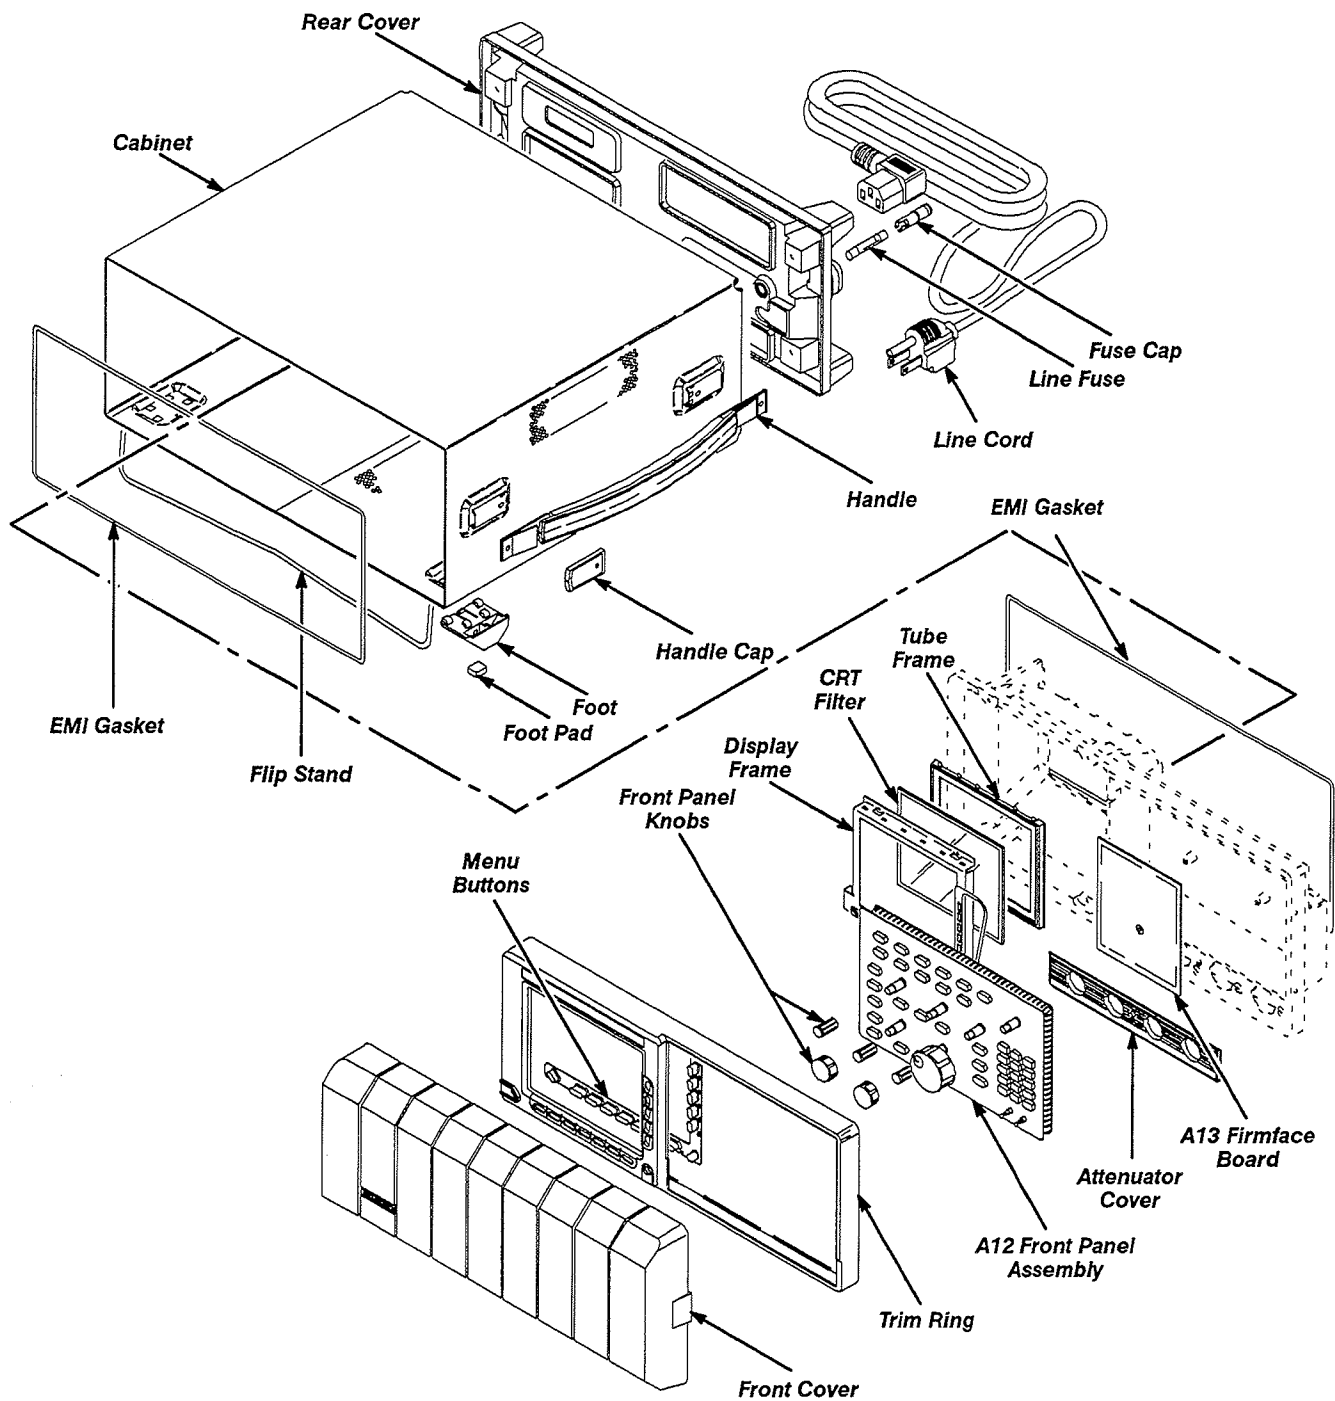
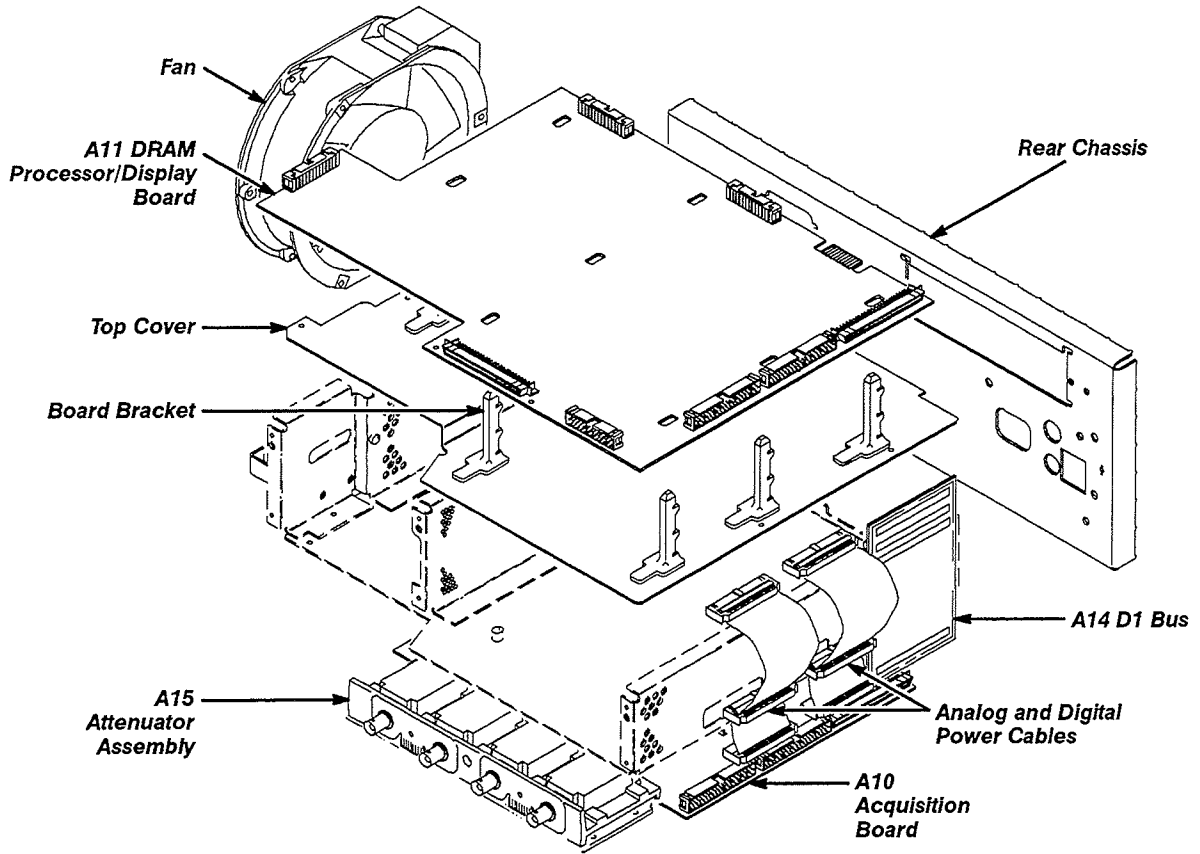
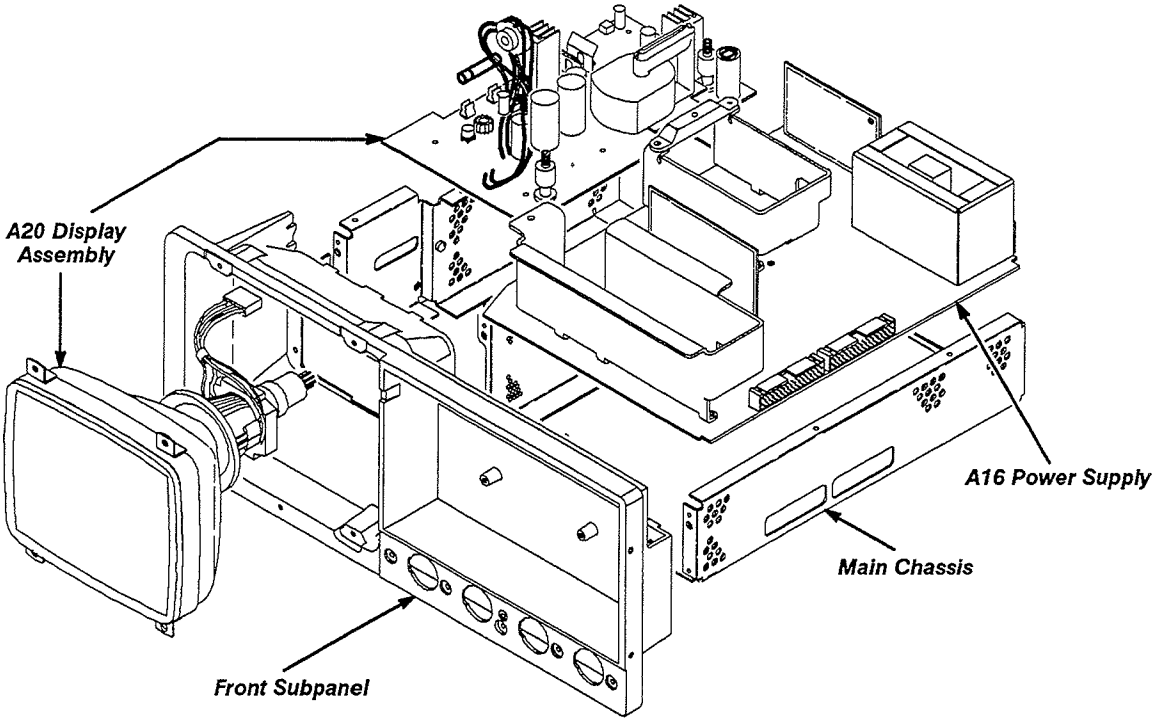

Figure 6-1: External Modules
Figure 6-2: Outer-Chassis Modules
Figure 6-3: Inner-Chassis Modules
- Three module locator diagrams for finding the External Modules (see Figure 6-1), Outer-Chassis Modules (see Figure 6-2), and Inner-Chassis Modules (see Figure 6-3) in this oscilloscope.
- a. Find the module to be removed in the module locator diagrams, Figures 6-1 through 6-3.
1. *Assemble equipment and locate modules to be removed:* Have a flat-bladed screwdriver (Item 5) handy. Locate the line fuse and line cord in the locator diagram *External Modules*, Figure 6-1.
- c. Locate the rear cover and cabinet in the locator diagram *External Modules*, Figure 6-1.
- b. Locate the modules to be removed in the locator diagram *External Modules*, Figure 6-1.
1. *Assemble equipment and locate modules to be removed:* No tools are needed. Locate the modules to be removed in the locator diagram *External Modules*, Figure 6-1.